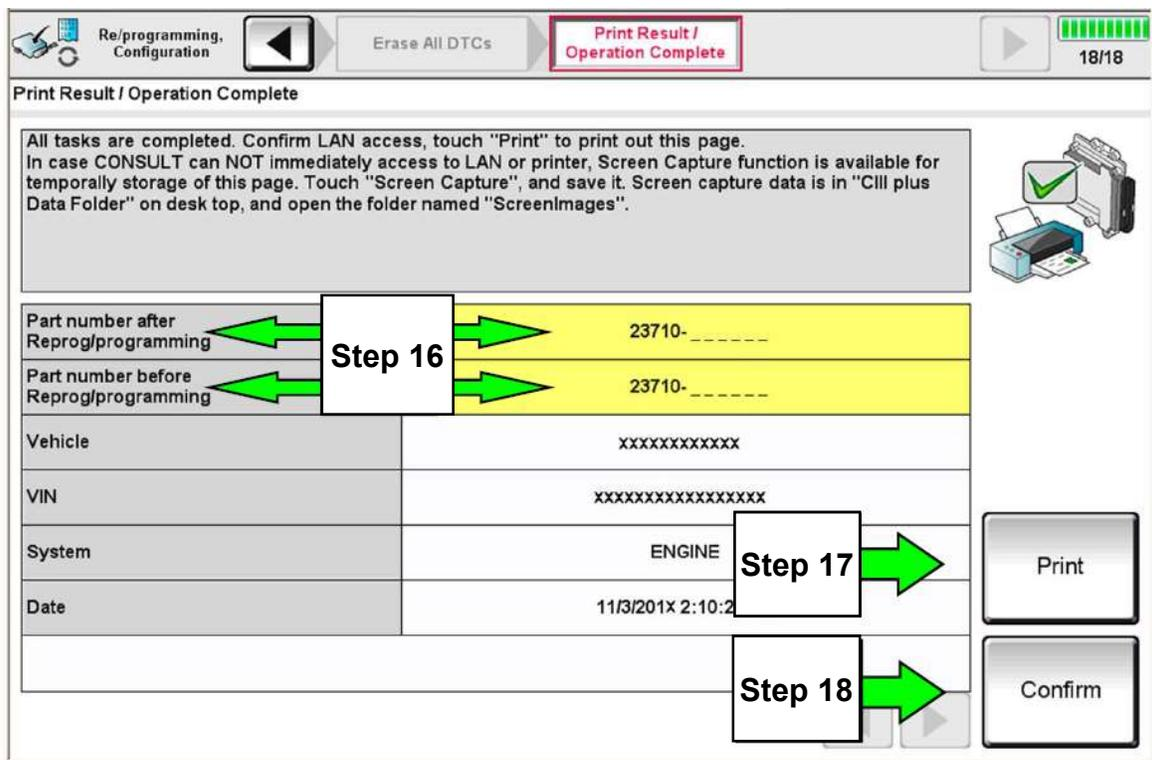

Figure 7
15. When the entire reprogramming process is complete, the screen Figure 7 will display.
17. Print a copy of this screen (Figure 7) and attach it to the repair order for documentation.